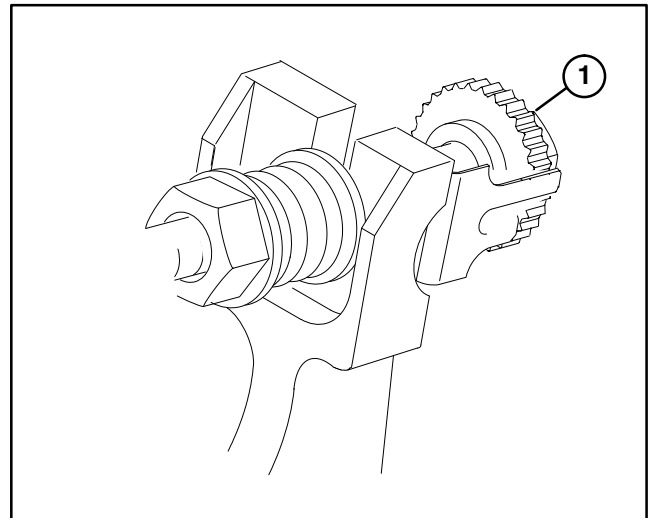

Figure 2
1. A 19 mm (3/4 inch) wrench will be needed to rotate bedknife adjustment knob. Each notch on the knob will move the bedknife .0005 inches (.013 mm) (Fig. 2).